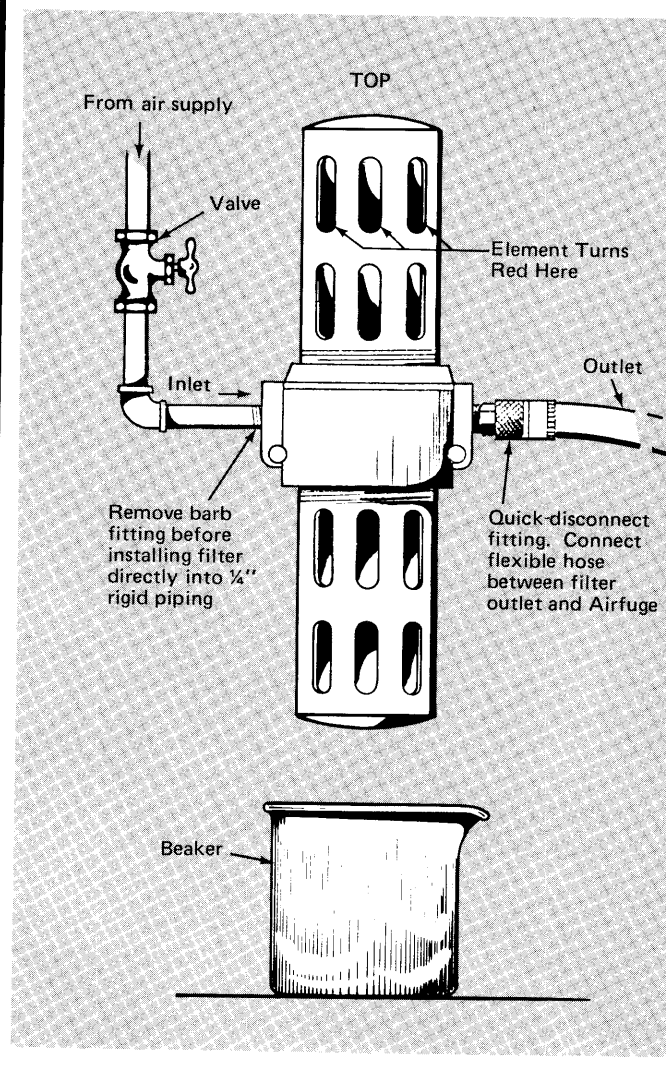

Figure 2-2. Free-Standing Filter
2. *Free-Standing*—This method is recommended if rigid piping leads from your air supply and can be mated to standard ¼-inch pipe thread. Remove the barb fitting from the filter inlet and substitute rigid piping. The filter is installed in vertical position (Figure 2-2). The connection between the filter outlet and the Airfuge is the same as for the wall-mount method, using the hose with quick-disconnects.\* *Place a beaker under the filter to collect small amounts of oil and water which will accumulate because of the self-purging action of the filter.*